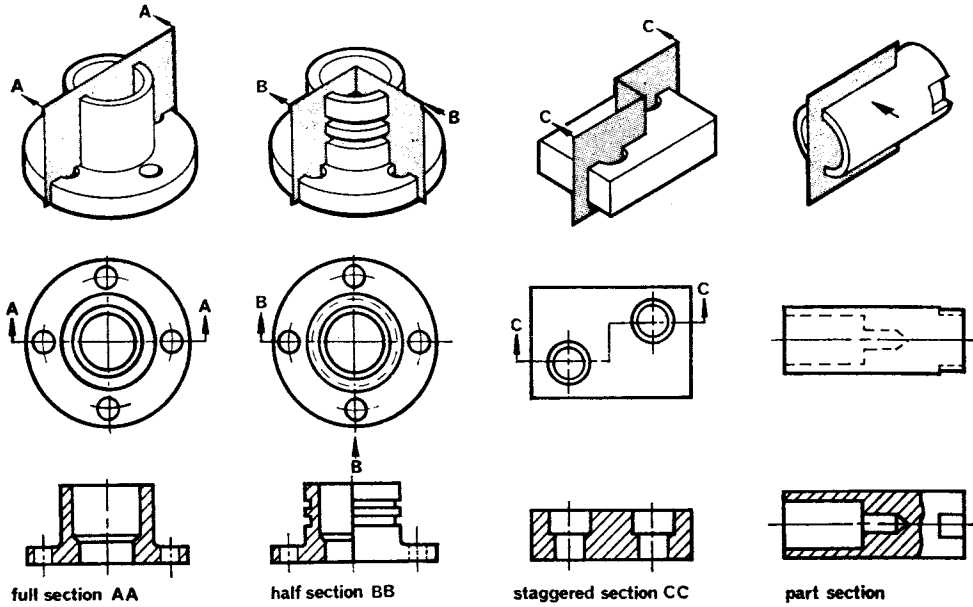

Fig. 11. Sectioned views
13. If an object is symmetrical it is common practice to draw a half section view. This shows half the object in section with the other half in plan or elevation. Part section views may be used when it is desired to show part of the object with greater clarity. The subject may also be viewed on two or more planes to provide extra information without additional drawings. This type of view is called staggered section. (Fig. 11).